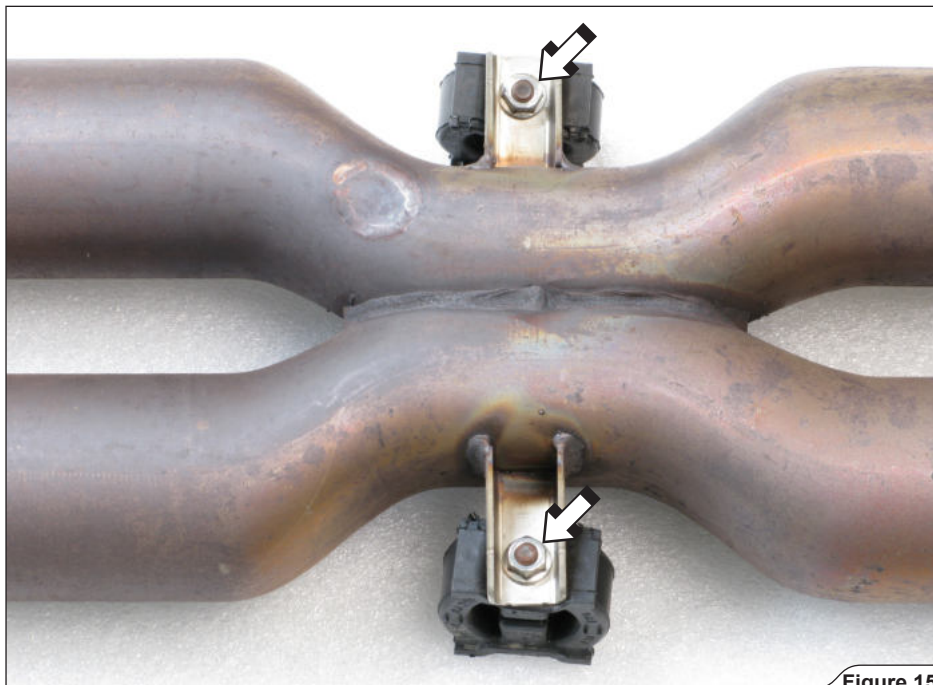

Figure 15
12. Unscrew the marked nuts and remove the rubber brackets off the collector (**Figure 15**).